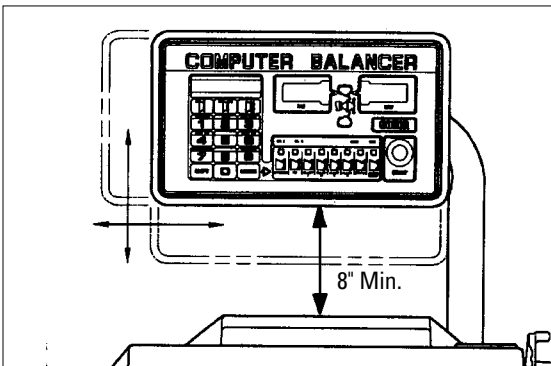

Figure 7 - Control Pod Height
19. Loosen the nuts on the support arm retainers. Raise or lower the control pod into the desired position, and tighten the retainer nuts securely. The bottom edge of the pod should be at least 8 inches above the top of the balancer (Figure 7).